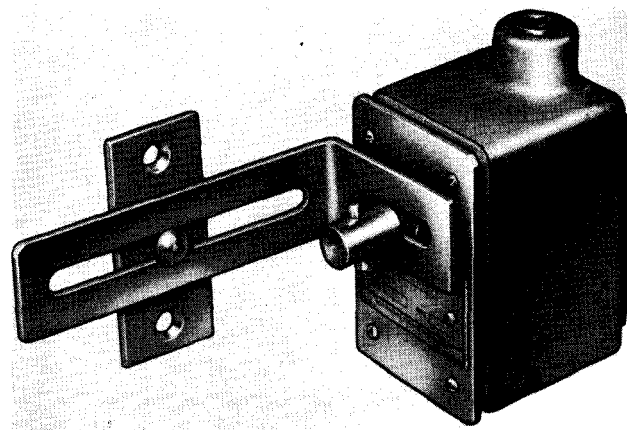

Fig. 28. Duct Door Interlock Switch
**Door Interlock Switches** (supplied with accessories) should be installed at the two duct doors as a positive means of de-energizing the power packs before the duct may be entered. See Figs. 28, 29 & 30.